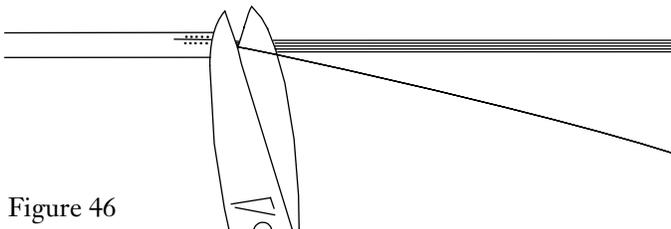

Figure 46
7.38 Using scissors, cut the fiber(s) to be accessed as close as possible to the appropriate end of the central tube (Figure 46) USE EXTREME CARE TO CUT ONLY THE FIBER(S) TO BE ACCESSED.